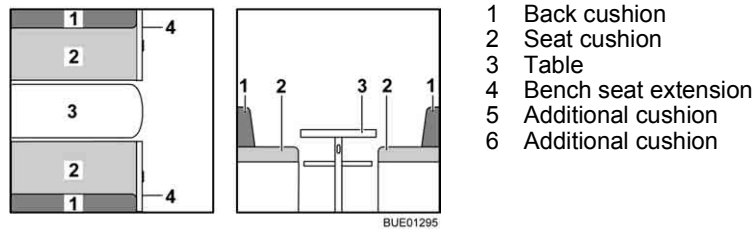

Fig. 118 Prior to conversion
- Extend the table (Fig. 118,3) and convert it into a bed foundation (see section 6.10).